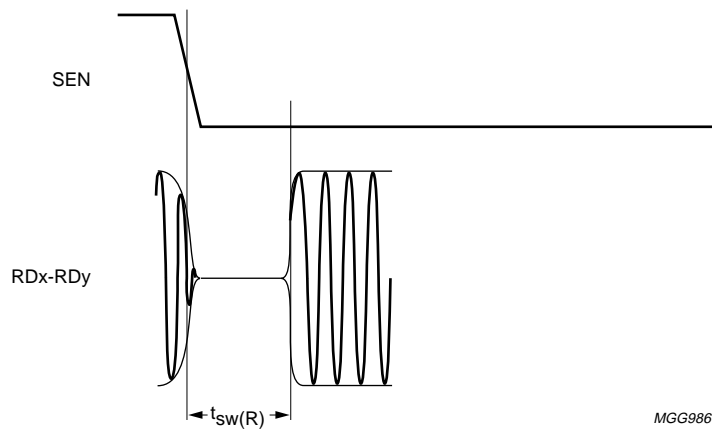

Fig.7 Timing diagram of the reader: typical head, current and standby-to-read characteristics.
11. In read mode, the head switching, standby to read active switching and changing MR current include fast current settling (see Fig.7). Same note regarding the AC signals at the reader outputs as above.